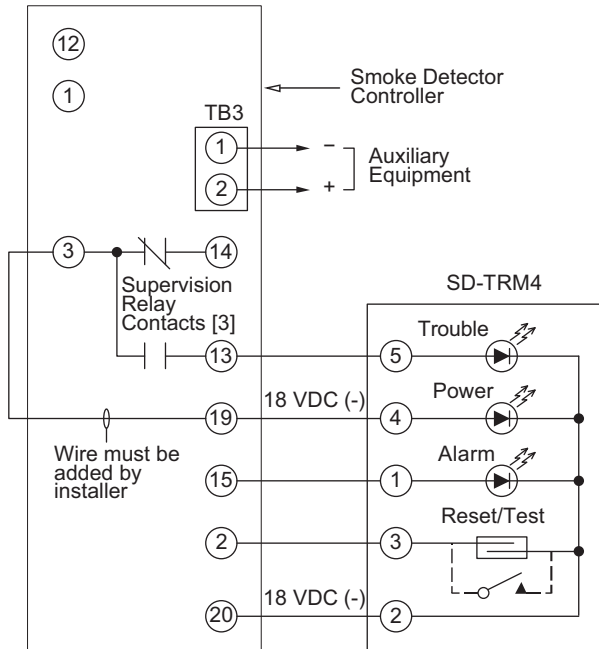

Fig. 51 — Remote Test/Reset Station Connections
The test/reset station dirty sensor test checks the test/reset station's ability to initiate a sensor dirty test and indicate the results. It must be wired to the controller as shown in Fig. 51 and configured to operate the controller's supervision relay. For more information, see "Dirty Sensor Test" on page 35.
1. Verify that the remote test/station is wired as shown in Fig. 51. Repair or replace loose or missing wiring.